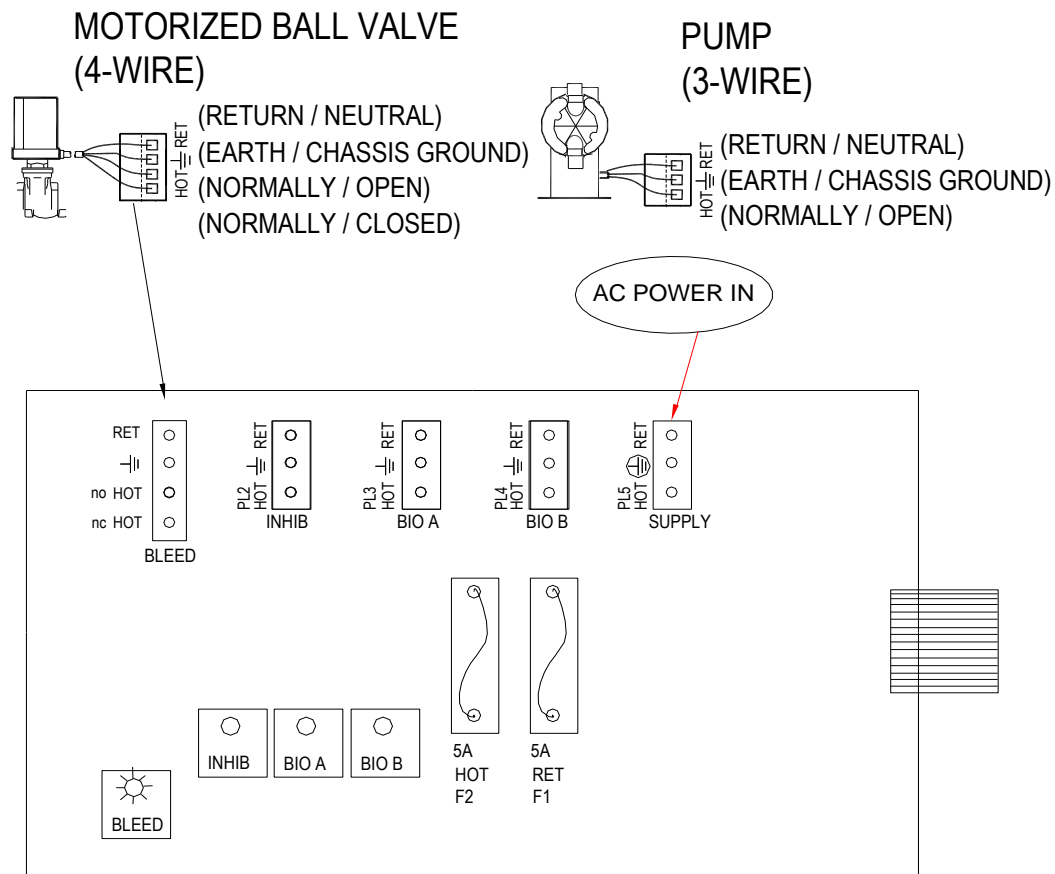

Fig. 6
The *MicroVision* electronic input circuitry is fuse protected on both the hot and neutral inputs using a replaceable five amp fuse (*Fig .6*).
Conduit controllers have openings for conduit connections for hard wiring. See Fig. 6 for input and output power connections. Use only 18 AWG (1,2 mm²) stranded wire
for conduit power and load connections. Supply (input) power is connected via **PL5** located on the relay board (Fig. 6). The top part of this terminal block is removable to allow for easy access to the connector's three (3) screws.
The low voltage connections are found on the low voltage (right side) board (Fig. 6). Use 22-24 AWG (.76 mm²) wire for: flow switch, drum levels, dry alarm, and water meter connections. These signal wires must be run separate from AC power lines.